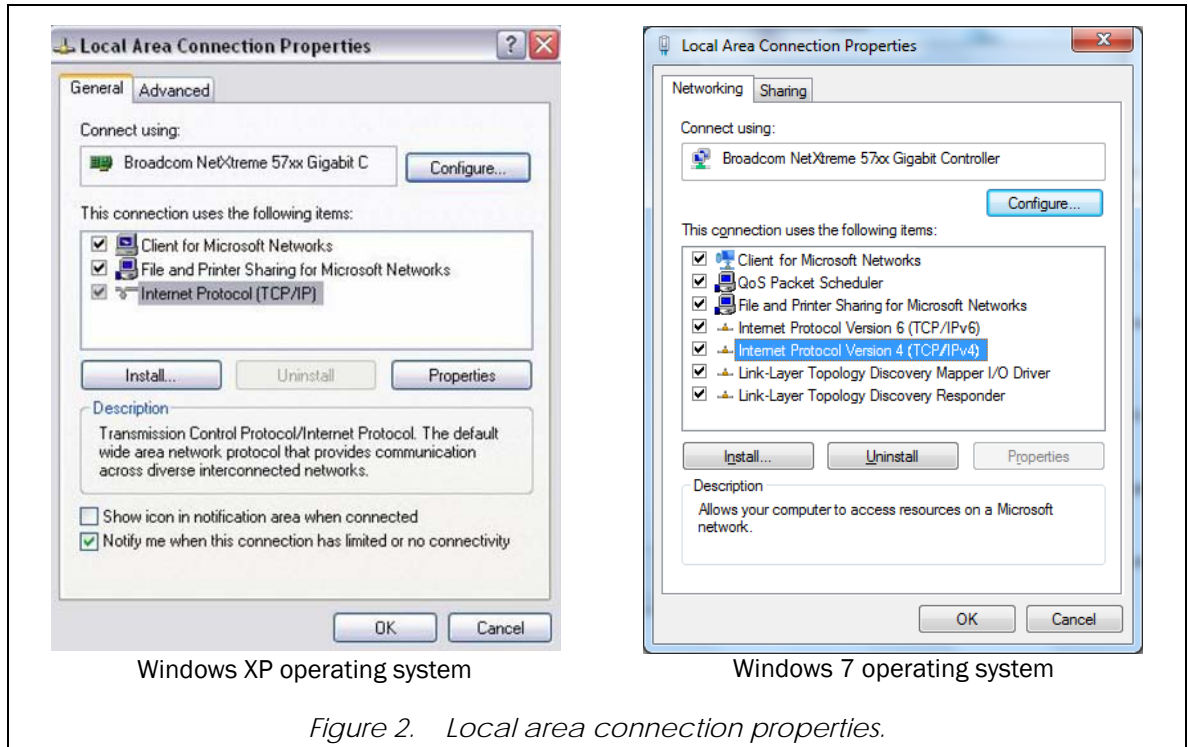

Figure 2. Local area connection properties.
- i. In **Windows XP** it is found under **Start/Control Panel**. Select the network card associated with the EFI; right click on it and select **Properties**. The Properties window will open. Select “Internet Protocol (TCP/IP)” and click on *Properties* (Figure 2).
- ii. In **Windows 7** it is found under **Start/Control Panel/Network and Internet/Network and Sharing Center**. Click the **Local Area Connection** link for the network card associated with the EFI. The Properties window will open. Select “Internet Protocol Version 4 (TCP/IPv4)” and click on *Properties* (Figure 2).